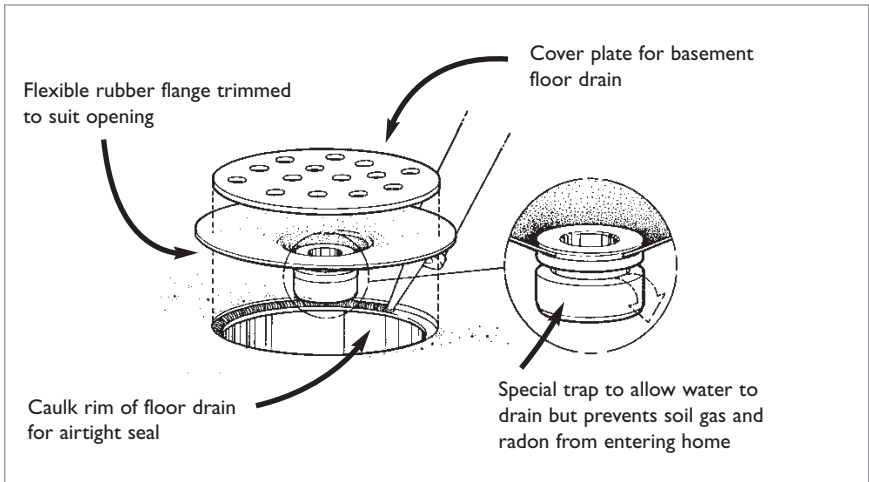

Figure 9: Trap for existing floor drains
- Floor drains – Basement floor drains can have special traps installed that allow water to drain, but prevent radon from entering the basement (*see* figure 9). These special traps are not a substitute for a sewer backup valve.